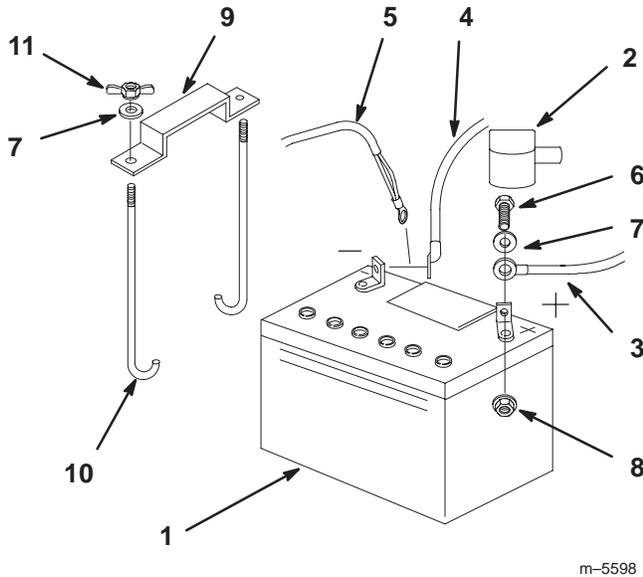

Figure 59
1. Position battery in tray with terminal posts toward the engine (Fig. 59).
4. Secure cables with 2 bolts (1/4 x 3/4 inch), 2 washers (1/4 inch), and 2 locknuts (1/4 inch) (Fig. 59).
6. Secure battery with J-bolts, hold down clamp and 2 washers (1/4 inch), and 2 wing nuts (1/4 inch) (Fig. 59).
3. First disconnect the negative battery cable and ground wire from the negative (-) battery terminal (Fig. 59).
4. Slide the red terminal boot off the positive (red) battery terminal. Then remove positive (red) battery cable (Fig. 59).
5. Remove both wing nuts (1/4 inch) securing the battery clamp (Fig. 59).